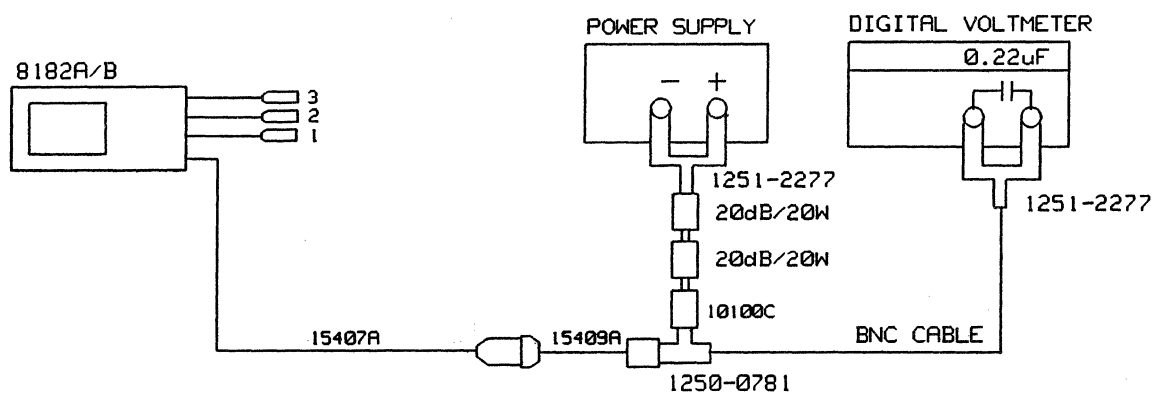

Figure 7-7. Test Setup for the Data Threshold Level Accuracy and Linearity Test
8. Connect the equipment as shown in Figure 7-7 and press **RUN**.